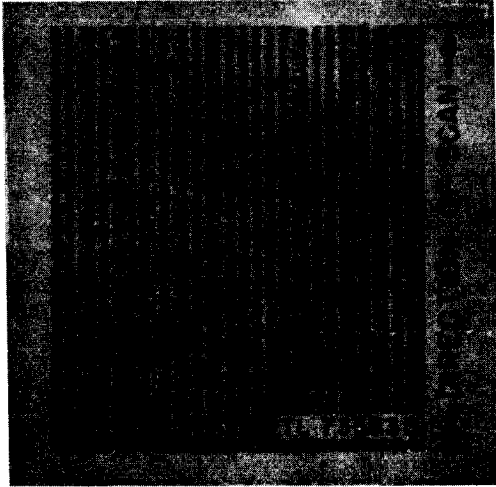

Figure 104. Enlarged example of line feed overlay and underlap.
a. Line Feed Pattern. Line feed pattern (fig. 104) may develop as a result of irregular longitudinal travel of the drum. If the drum does not advance uniformly at the rate of 1/96 inch per revolution, some of the photographically recorded scanning lines will overlay and others will underlap, thereby creating a blank space between the two lines. If the effect is great enough to cause noticeable deterioration in the received copy, corrective measures must be taken. The most common cause of trouble is the drum and lead-screw system. First check the arm of the drum-feed engaging mechanism to be sure it is riding on the guide rail. Install new half nuts as a corrective measure. Be sure that the snubber (N, fig. 122) is set firmly against the lens barrel. If this does not correct the trouble, make a test recording by substituting the drum of another machine. Be sure that the test recording is of the same type and is made by the same method as the one on which the line feed pattern proved troublesome. A final test should be made by using both the drum and the lead screw of another machine. If the line feed trouble remains, the trouble is probably in the motor or the optical system.